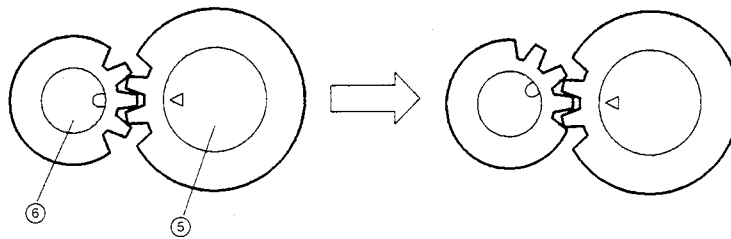

Figure 3-9 Column Displacement Adjustment B
1. Remove the stop ring ④, then remove the idler gear ⑤.
2. Turn the motor gear ⑥ one tooth, then install the idler gear ⑤ and the stop ring ④. This operation changes the relative the positions of the idler gear ⑤ and the motor gear ⑥ (the relation between the  $\Delta$  on the idler gear and the  $\square$  on the motor gear) as Figure 3-9 shows.